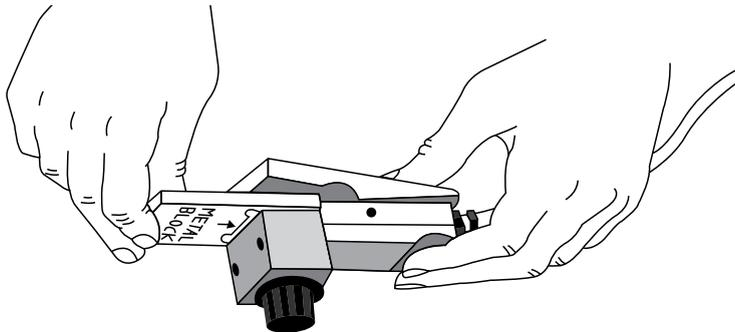

Figure 51 Sensor head on calibration plate
19. Slide the calibration plate into the sensor head, orienting the side of the plate marked Metal Block toward the aluminum block side of the sensor head (Figure 51). A seating click will occur when the plate is placed correctly. The lip on the calibration plate should be fully fitted into the top of measurement hole.